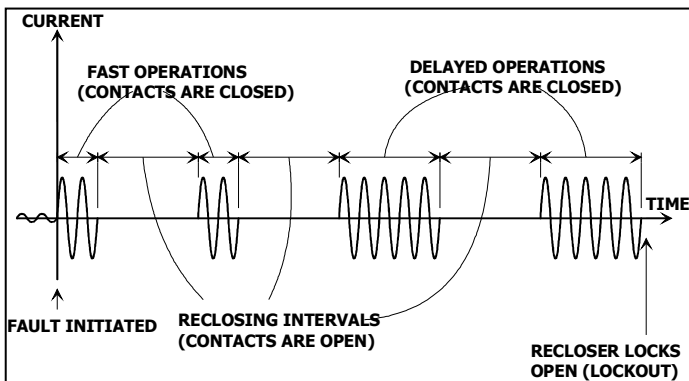

Figure 1
- Typical sequence is two fast (instantaneous) operations followed by two delayed operations (2A2B.... see Figure 1).